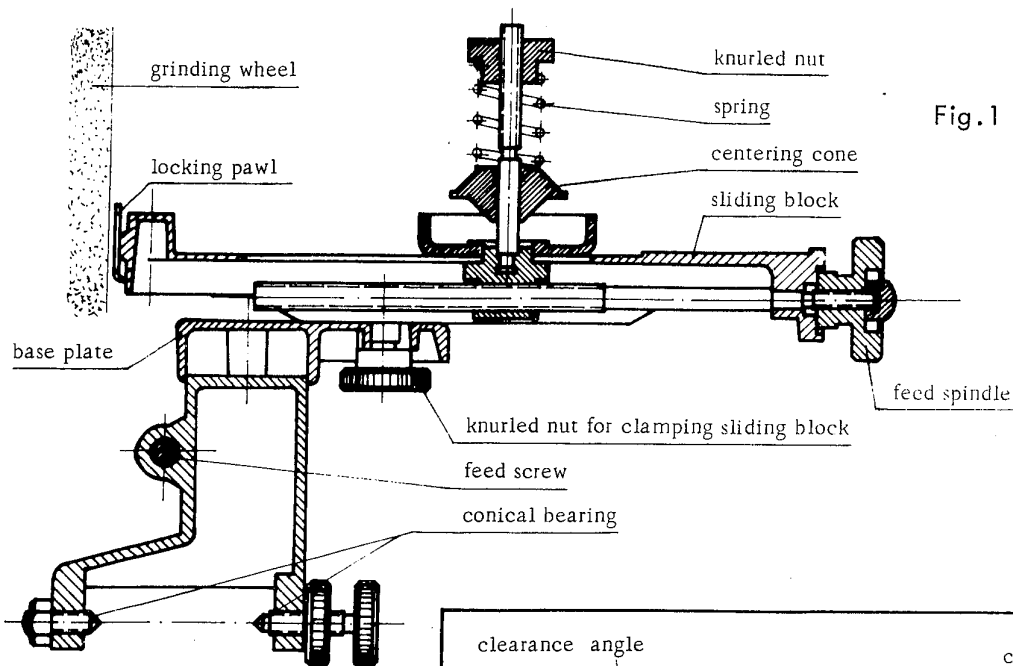

Fig. 1
4. Detach the work-location fixture (knurled nut, spring, and centering cone - Figure 1).
Refix the sliding block (Figure 1).